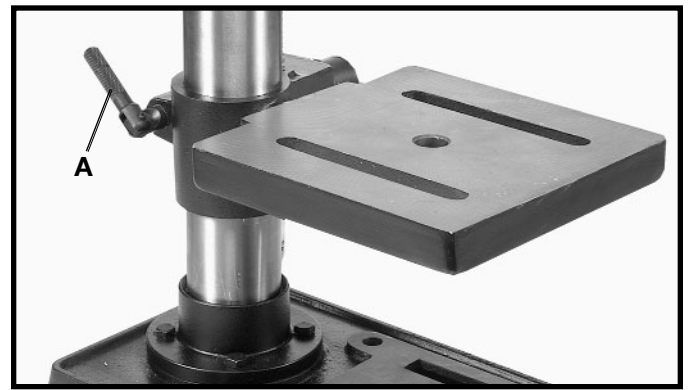
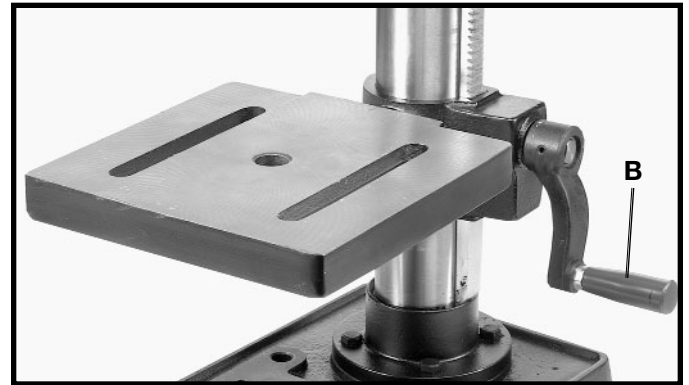

Fig. 23
Fig. 24
1. The table can be raised or lowered on the drill press column by loosening the table clamp handle (A) Fig. 23, and turning the table raising and lowering handle (B) Fig. 24. After the table is at the desired height, tighten table clamp handle (A) Fig. 23. **NOTE:** Final positioning of the drill press table should always be from the bottom to the up position.
2. The table can be rotated 360 degrees on the column by loosening clamp handle (A) Fig. 23, rotate table to desired position and tighten clamp handle (A).